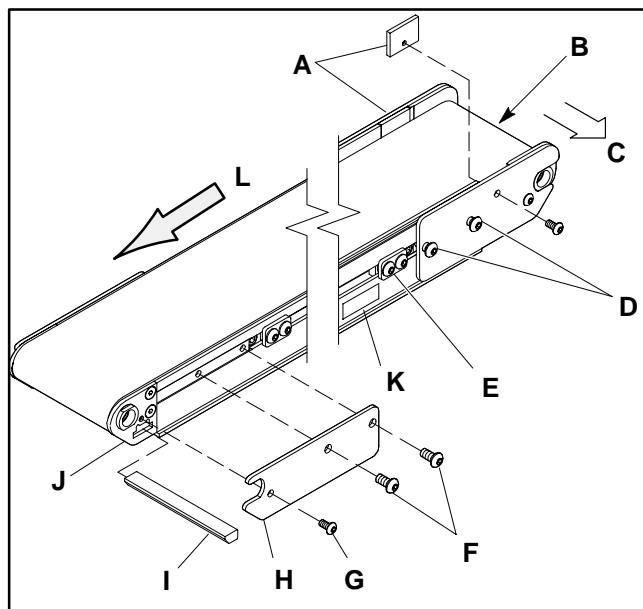
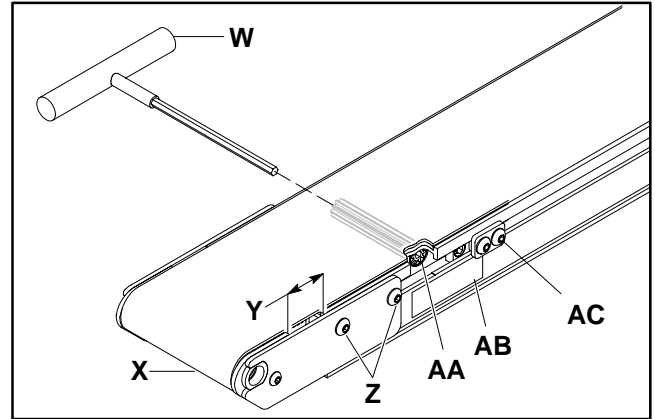
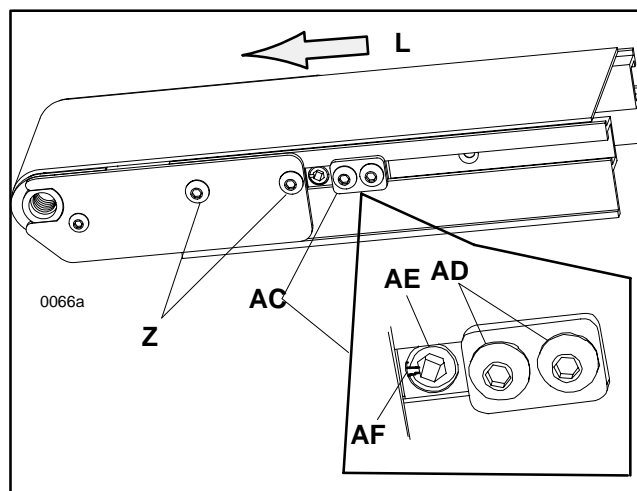

Figure 18
Figure 22
Figure 23
1. If you are working on a high-side conveyor, remove filler plates (A of Figure 18).
2. If engaged, loosen belt tracking cam assemblies (E) on both sides of tensioning end (B), identified with a label (K), and slide them toward middle of conveyor.
3. Loosen tail cover plate screws (D) on both sides of tensioning end of the conveyor.
4. Position tensioning end (B) of conveyor by pushing it back into conveyor frame. This loosens belt sufficiently for removal.
5. Find bottom wiper (I) at discharge end of conveyor. Remove tail cover plate screws (F and G) on one side of conveyor. Remove tail cover plate (H) and slide out bottom wiper (I) through hole in tail plate (J).
6. Remove old belt by sliding it sideways (C) from conveyor.
3. If you are working on a high-side conveyor, remove filler plates (A of Figure 18).
4. If engaged, loosen belt tracking cam assemblies (E) on both sides of tensioning end (B), identified with a label (K), and slide them toward middle of conveyor.
7. Find and remove bottom wiper (I of Figure 18) at discharge end of conveyor. Remove tail cover plate screws (F and G) on one side of conveyor. Remove tail cover plate (H) and slide out bottom wiper (I) through hole in tail plate (J).
3. Re-install bottom wiper (I of Figure 18) and tail cover plate (H).
4. Ensure all hardware is fully tightened except tail cover plate screws (F) on tensioning end of conveyor.
6. If you are working on a high-side conveyor, replace filler plates (A of Figure 18).
1. Locate tension end (X of Figure 22) of conveyor, identified with a label (AB).
2. If engaged, loosen and slide belt tracking cam assemblies (AC) towards center of conveyor on both sides of tension end (X).
3. Loosen tail cover plate screws (Z) on both sides of tension end (X).
4. Insert a hex key wrench (W) into either end of pinion (AA).
5. Rotate pinion (AA) to extend tensioning end until gap (Y) between pulley plate and conveyor frame measures 1.19" (30 mm) for a new end-driven belt or any center driven belt, or as required to stop drive pulley slippage.
7. While holding pinion (AA) in tensioned position, tighten cover plate screws (Z) on both sides of conveyor. Torque screws to approximately 18 in/lb (2.03 Nm).
8. If you are working on a high side conveyor, replace filler plates. Refer to Figure 18 in "Belt Removal for Conveyor Only (No Stands or Gearmotor Mounting Package)" on page 9.
9. Position belt tracking cam against the slide bar while making sure groove is correctly oriented. See Figure 23 on page 12. Then, secure the belt tracking cam assemblies into position on both sides of the conveyor.
Check both ends of the conveyor for proper belt tracking. The belt should track centered between the tail plates on both ends of the conveyor. Conveyor belt tracking should always be adjusted on the discharge end, as determined by the direction of belt travel (L of Figure 23) of conveyor first. Then, check the tracking on the opposite (infeed) end of the conveyor and readjust it, if necessary.
1. Loosen (but do not remove) the two (2) cam clamping plate screws (AD) on both sides of the conveyor discharge.
2. Slide both belt tracking cam assemblies (AC) as far as they can be toward the end of the conveyor.
3. The belt tracking cam (AE) must be set to the low point at the point of contact as illustrated. The slot (AF) in the belt tracking cam should be horizontal and pointing towards the end of the conveyor.
4. Tighten the two (2) cam clamping plate screws (AD), on both sides of the conveyor.
5. **Only loosen the two tail cover plate screws (Z of Figure 23) on the side of the conveyor that the belt is tracking toward.**
6. With the conveyor running, use the 5 mm hex key wrench (W of Figure 22) to slowly rotate the belt tracking cam (AE of Figure 23). Rotate the cam in small increments, in either direction to cause the belt to track away from the conveyor side, until the belt tracks in the center of the conveyor. Always allow the conveyor belt to make several revolutions between adjustments.
7. Tighten the tail cover plate clamp screws (Z) and re-check the belt tracking.